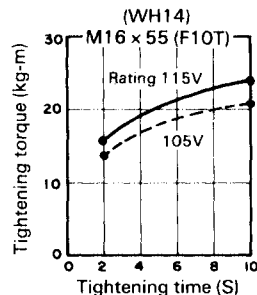

Fig. 5
1. Confirm the line voltage (Figs. 5, 6, 7, 8 and 9)
The tightening torque decreases when the line voltage becomes low. (See Figs. 5, 6, 7, 8 and 9)
The tightening torque increases when the operating time increases. But the tightening torque does not increase above a certain value even if the tool is driven for a long time. (See Figs. 5, 6, 7, 8 and 9)
The tightening torque differs with the diameter of the bolt as shown Figs. 5, 6, 7, 8 and 9. Generally a larger diameter bolt has a larger tightening torque.